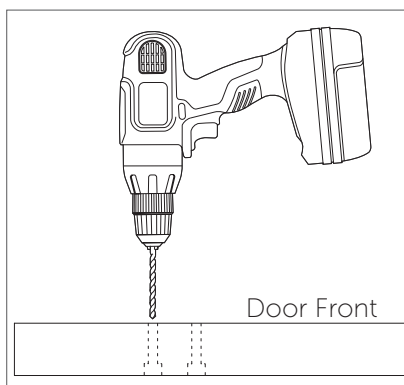

Figure 5
6. Turn the door over, returning it to the face-up position. Drill all the way through the pilot holes using a drill with a 1/4" drill bit. (Figure 5).